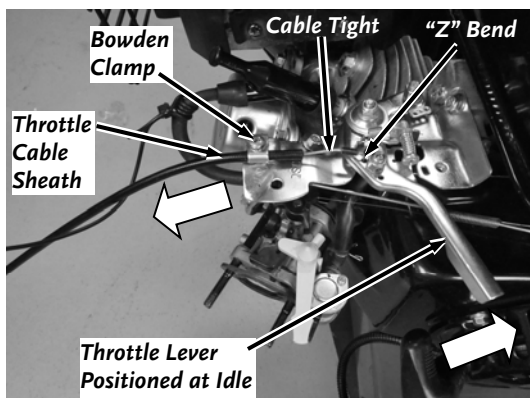

Figure 23
6. Hook the "Z" Bend end of the Throttle Cable in the Hole (hole furthest left) in the Throttle Linkage (**Figure 23**). Loosen the Bowden Clamp with a Phillips Head Screw Driver and position the Cable Sheath under the Clamp.